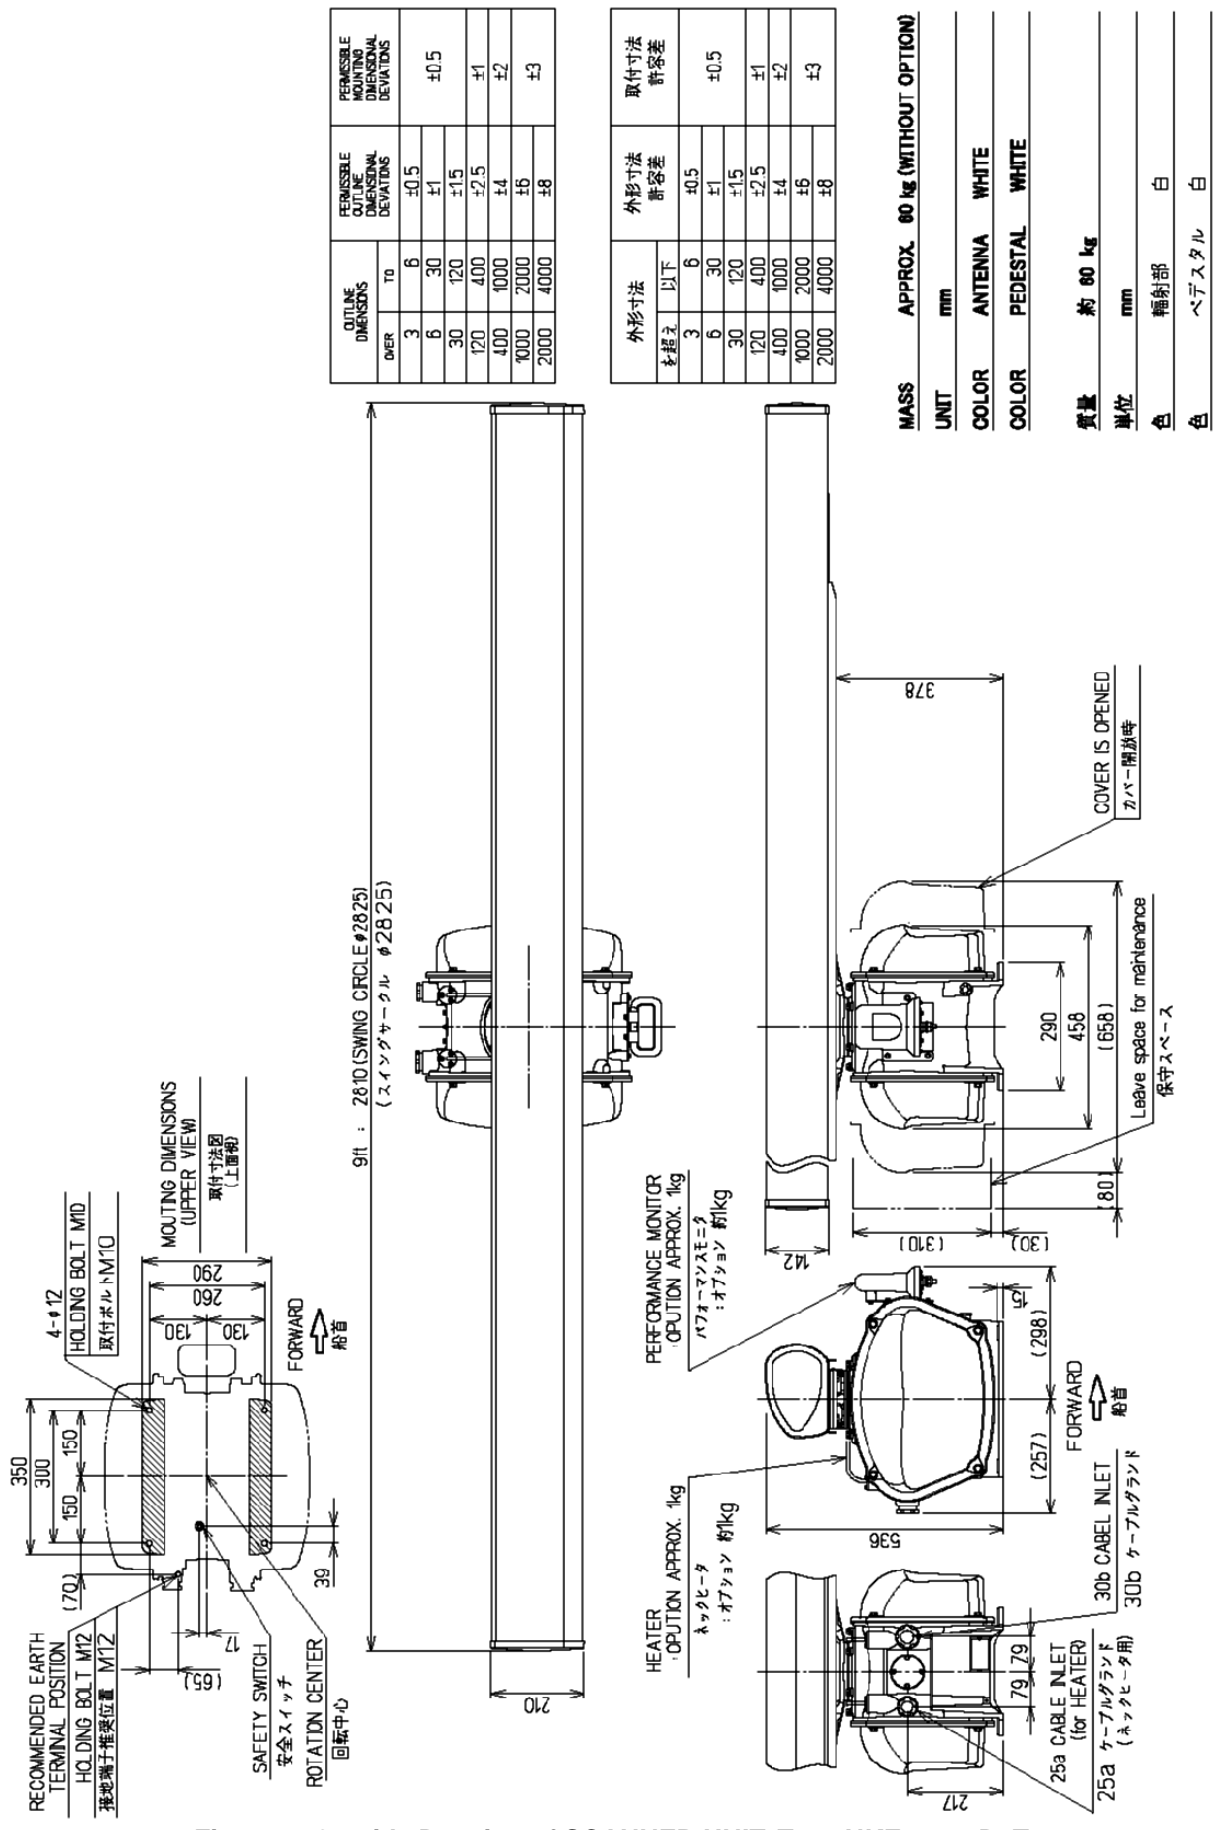

Fig. 1.3 Outside Drawing of SCANNER UNIT, Type NKE-600-2D1T
- Fig. 1.3 Outside Drawing of SCANNER UNIT, Type NKE-600-2D1T